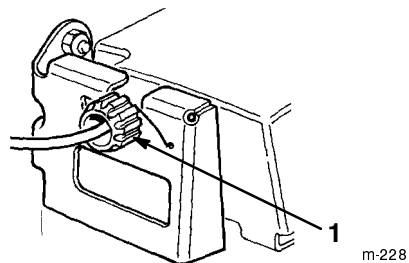

Figure 27
2. Rotate the control knob clockwise 1/2 turn if the lawn mower does not self-propel. If the lawn mower creeps forward, rotate the knob 1/2 turn counterclockwise to loosen the belt (Fig. 27).